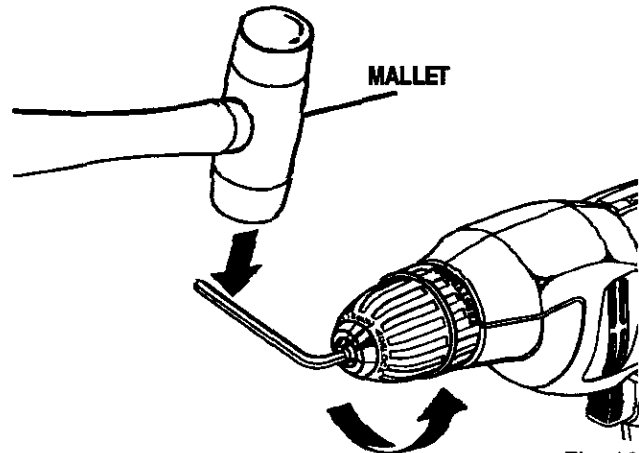

Fig. 12
- Insert hex key into chuck and tighten chuck jaws securely. Tap sharply with a mallet in a counter-clockwise direction. This will loosen the chuck on the spindle. It can now be unscrewed by hand. See Figure 12.